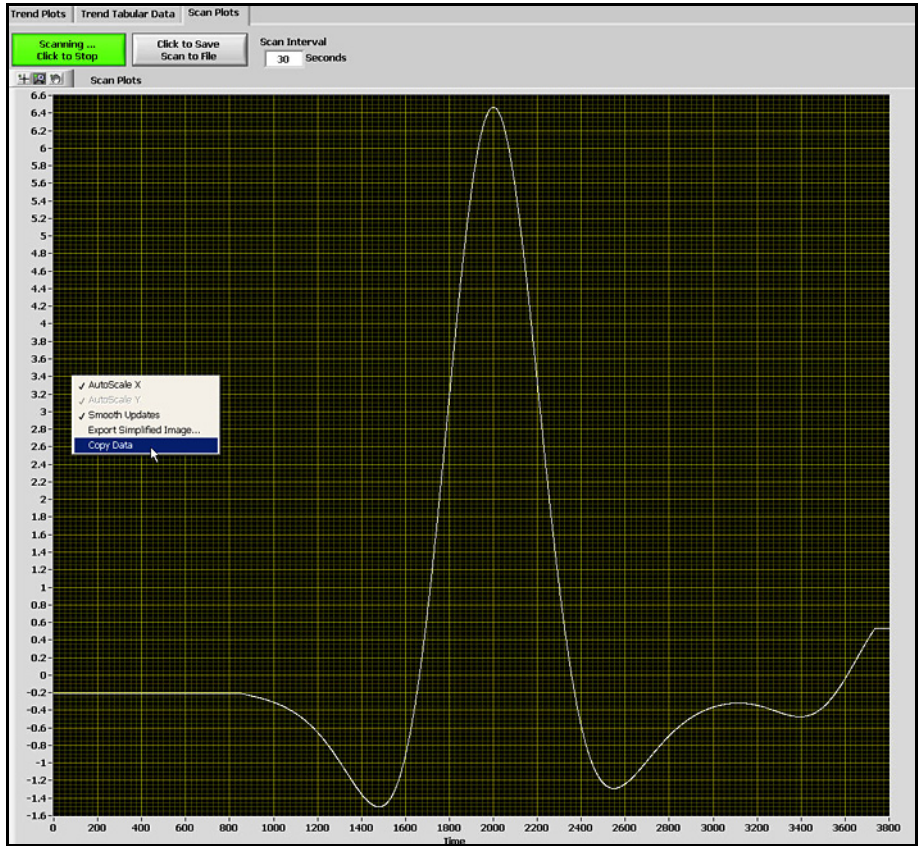
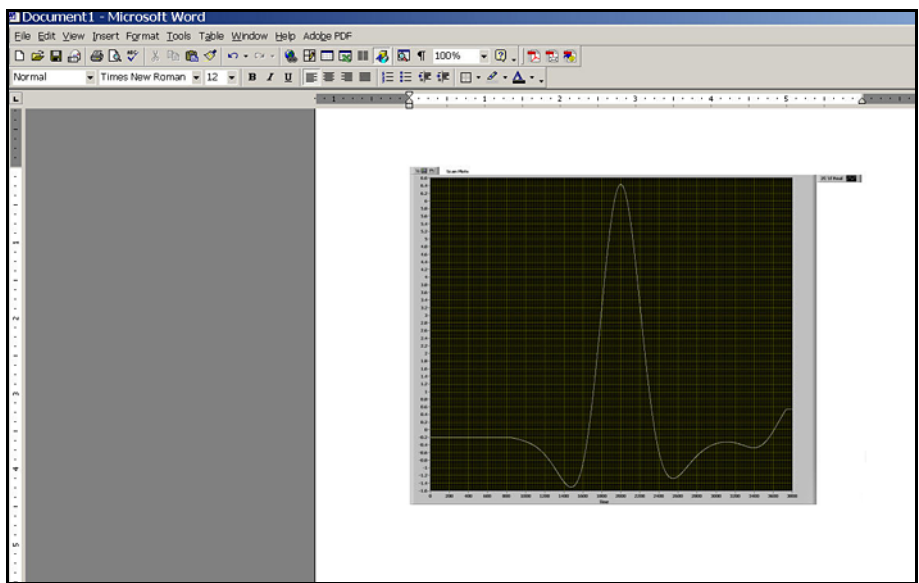

Figure 77: Copying a Trend Plot
Figure 78: Pasting a Trend Plot
4. Copying and Pasting a Trend Plot can be done from AuroraView (see Figure 77 and Figure 78 below) One way to do this quickly is to simply right click over the data area and choose Copy. In another application, like Microsoft Word, simply paste.